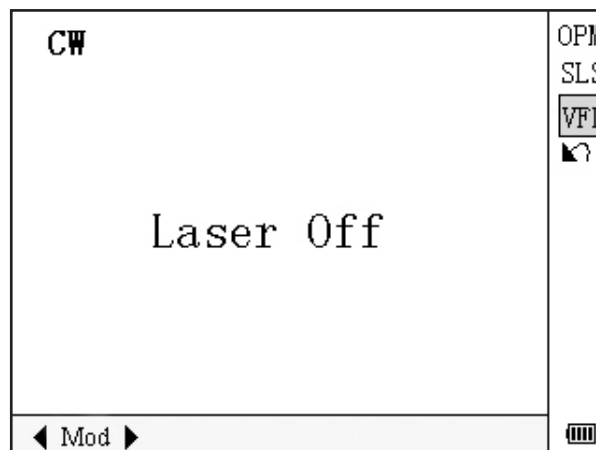

Figure 4-14. Visible Fault Locator
1. Enter PM/LS interface as described in "Power Meter, Laser Source, and VFL Configuration" in Section 3. Use ▲ and ▼ to highlight "VFL", and press Enter to enter VFL interface (Figure 4-14).